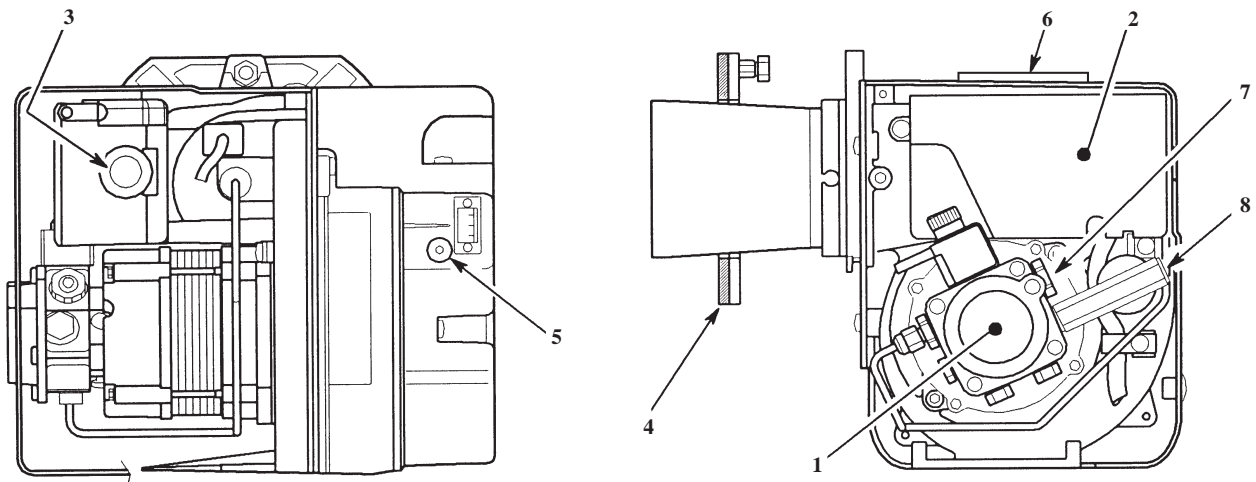

Fig. 15 - RDB burner components
- 5 Connect a combined vent manifold and pressure gauge to the pressure gauge connection port on the oil pump. See Fig. 15. Open the vent screw on your vent manifold to vent the supply while the pump is running.
- 8 With the burner alight, check the fuel pressure. Refer to the Technical Information, section 2.2. Adjust the pressure if necessary - see Fig. 15.
- 13 Check the smoke number, if satisfactory check the CO₂. Use the hexagonal key supplied to adjust the burner air damper (see Fig. 15) as required. Turning the screw clockwise closes the damper and increases CO₂ level, turning the screw anticlockwise opens the damper and reduces CO₂ level.